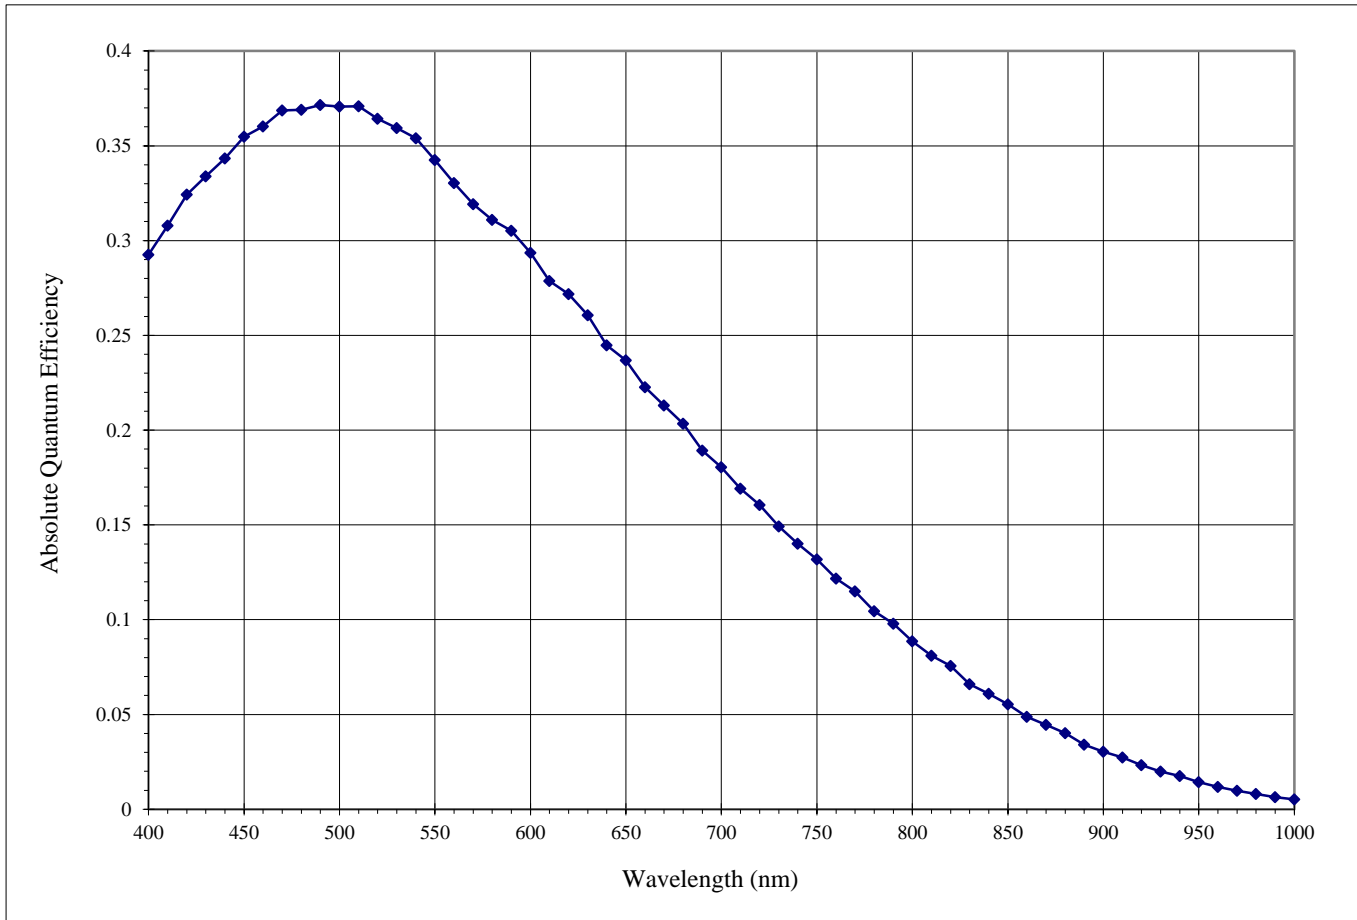

Figure 5: Nominal KAI-0330-ABA Spectral Response
- Refer to typical values from Figure 5.